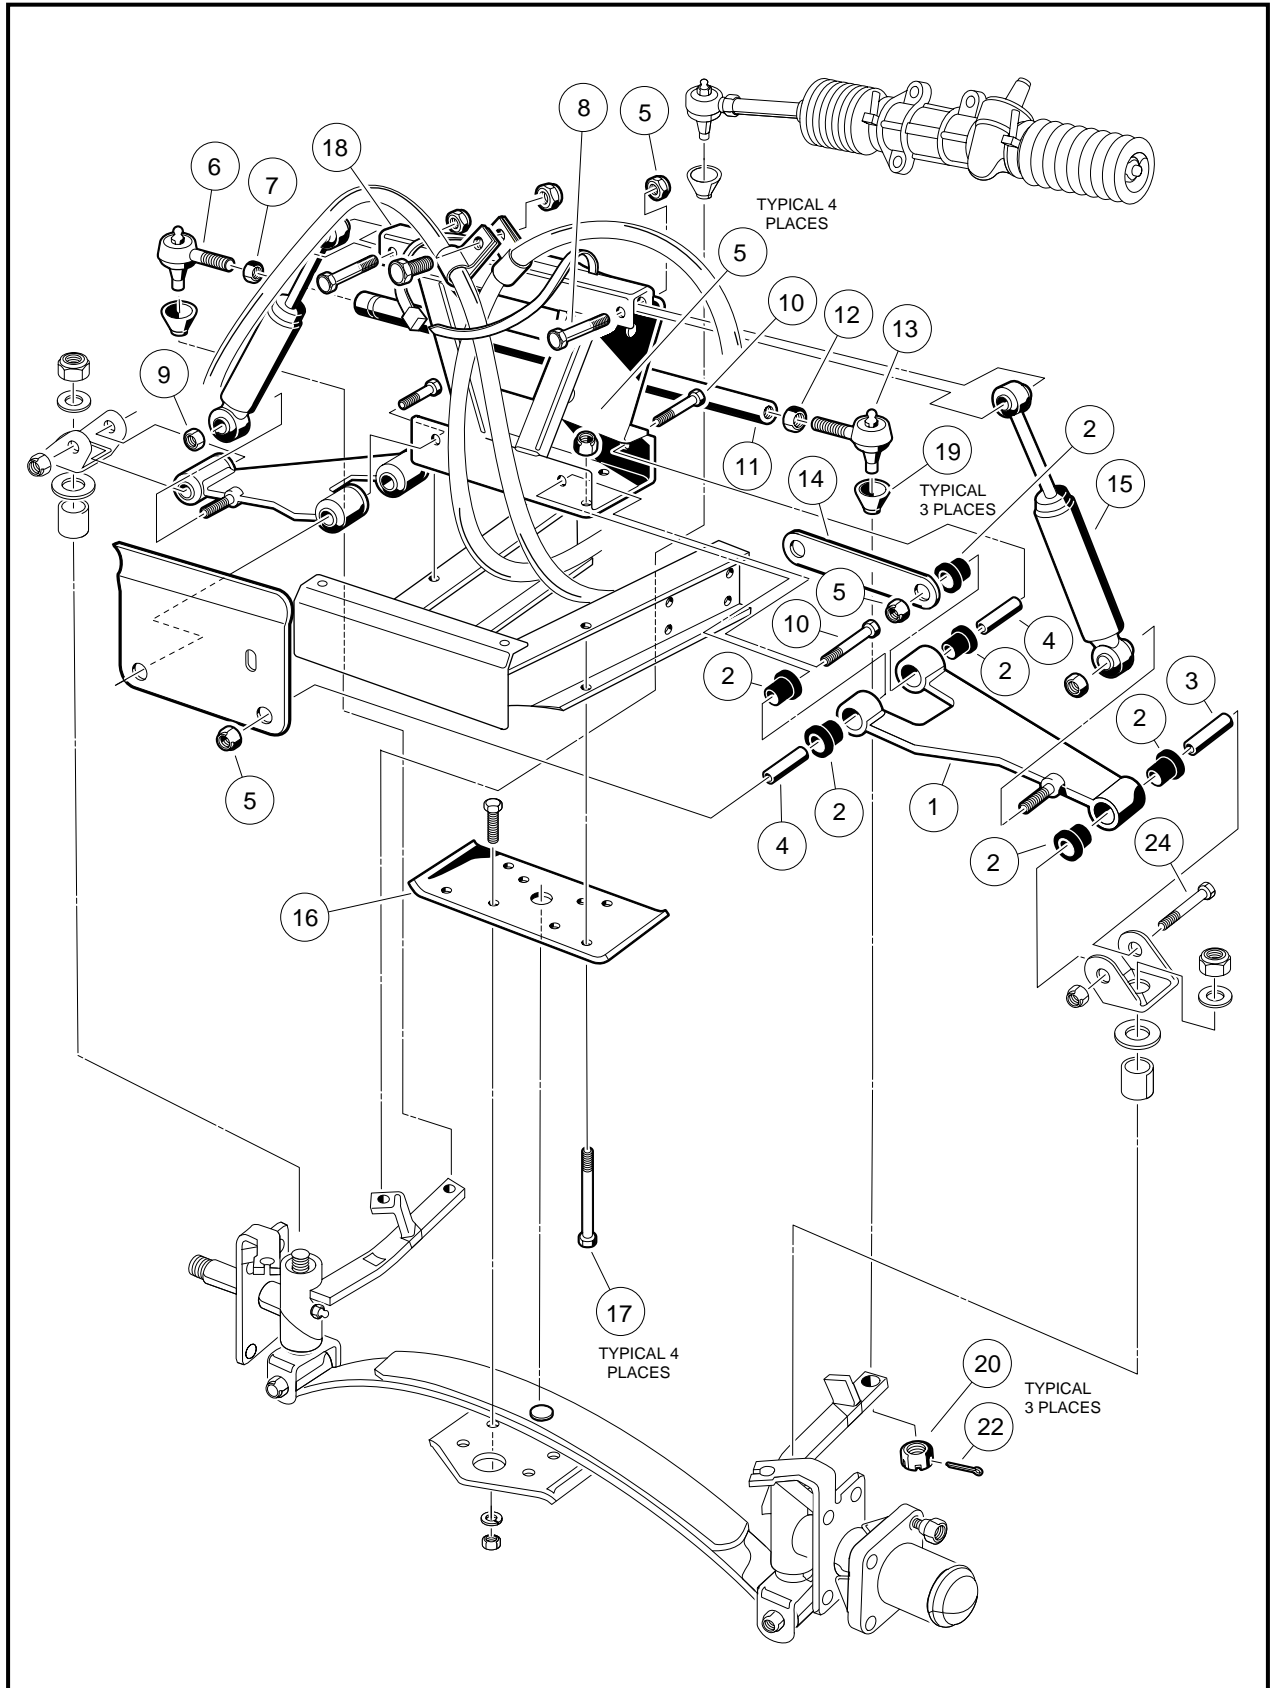

Figure 7-21 Four-Wheel Brake Vehicle – Upper Portion
1. Using locking pliers to hold tie rod and drag link, loosen jam nuts (7 and 12) on tie rod ball joints (**Figure 7-21, Page 7-19**) and loosen jam nuts (27 and 29) on the drag link (**Figure 7-12, Page 7-11**).
2. Remove the cotter pins (22) and ball joint retaining nuts (25 or 20) (**Figure 7-12, Page 7-11 or Figure 7-21, Page 7-19**).
3. Use a ball joint removal tool to remove ball joints (13 and 6) (**Figure 7-21, Page 7-19**) and (23) (**Figure 7-12, Page 7-11**) from the spindles.
4. Remove the ball joints from the tie rod (11) (**Figure 7-21, Page 7-19**).
1. Thread ball joints (6 and 13) into tie rod (11) to a depth of 1/2 inch (12.5 mm) (**Figure 7-21, Page 7-19**).
2. Install ball joint ends (6 and 13) into the left and right-hand spindle arms (23), then install the retaining nuts (20) and cotter pins (22) (**Figure 7-21, Page 7-19**).
3. Remove cotter pins (22) and nuts (20), then remove ball joints from the spindles (**Figure 7-21, Page 7-19**). Remove drag link ball joint. **See also Tie Rod and Drag Link Removal on page 7-13.**
5. Attach the ball joints (6 and 13) to the spindle arms, install and tighten the nut (20), and install the cotter pin (22) (**Figure 7-21, Page 7-19**).
2. Remove wheel. Remove bolts (10 and 24), A-Plate straps (14), and nuts (5) (**Figure 7-21, Page 7-19**).
3. Remove the lower shock absorber mounting nut (9), then slide the shock absorber free of the Delta A-Plate (**Figure 7-21, Page 7-19**).
4. Remove the Delta A-Plate (1) (**Figure 7-21, Page 7-19**).
5. Inspect the bushings (2) and sleeves (3 and 4) in the Delta A-Plate and replace them if necessary (**Figure 7-21, Page 7-19**).
1. Install the A-Plate in reverse order of removal. Tighten the A-Plate suspension bolts (10 and 24) to 20 ft-lb (27 N·m) (**Figure 7-21, Page 7-19**).
2. Remove the nut (9) attaching the shock absorber to the A-Plate (**Figure 7-21, Page 7-19**).
3. Remove the nut (5) and bolt (8) attaching the shock absorber to the shock and gear support (**Figure 7-21, Page 7-19**).